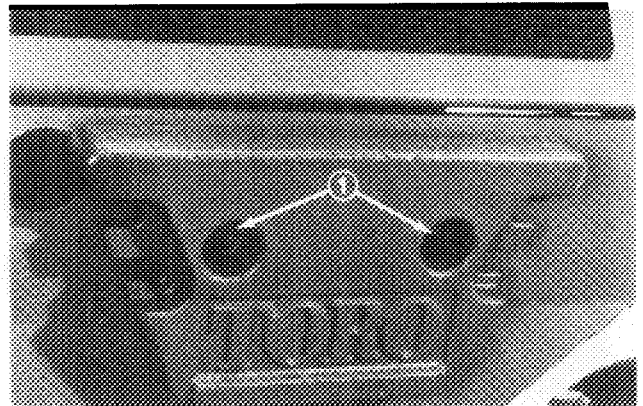

Figure 13
1. Mount rear weights to back of machine with two capscrews, lockwashers, spacers, and nuts (Fig. 13). Spacer must be between weight and chassis. Order kit #24-5780 (includes 2-weights and hardware) from your Authorized Toro Distributor.